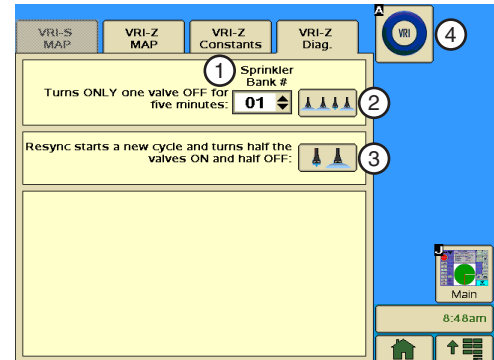

Figure 59-1 1. Sprinkler Bank # Field
1. Push **Options, VRI** and **VRI-Z Diagnostic** to display the VRI-Z screen. Refer to Figure 59-1.